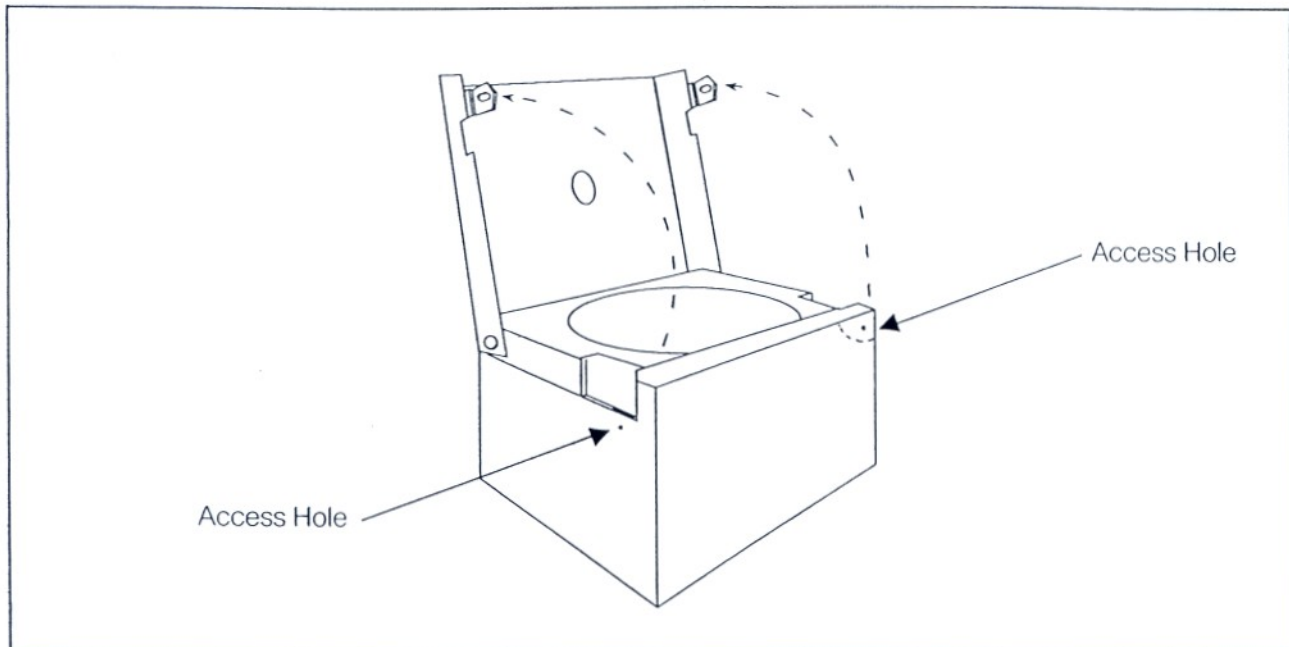

Figure 7. Emergency Lid Opening
3. Insert two rods into the access holes on both side panels (See Figure 7) and unlock the lid, one side at a time.
NOTE: In case of power failure, the LID key pad cannot be used to open the lid. Follow Emergency Lid Opening Procedure, Section 2.7, Fig. 7.